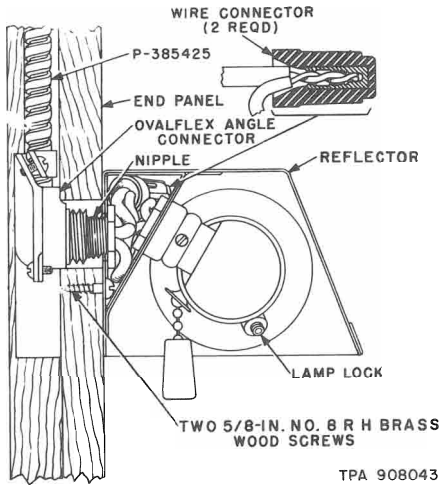

Fig. 6—Installation of 2-Type Light Fixture
- (1) For 2B fixture, drill a 1-inch hole to accommodate ovalflex angle connector as shown in Fig. 6.